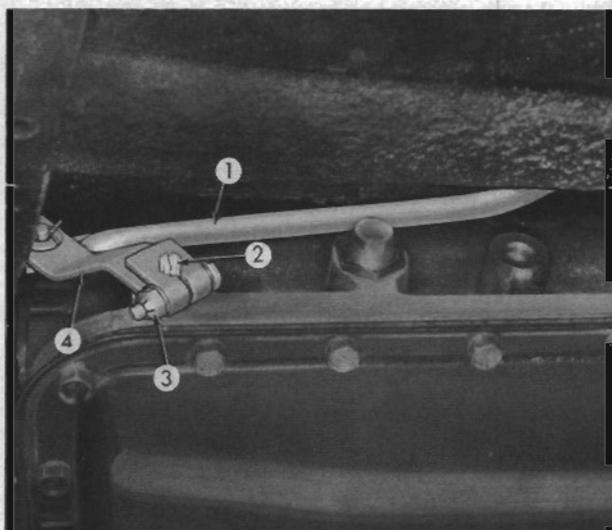
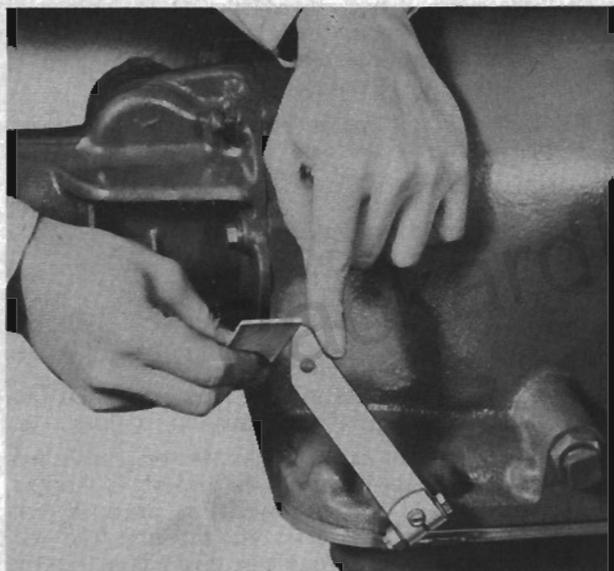

FIG. 266
FIG. 267
Disconnect the rod (1, Fig. 266) at the throttle valve outer lever (4) at the right rear of the transmission. Move the lever rearward to its stop. Hold a straight edge across the milled surface of the transmission case. The taper on the end of the lever should just contact the straight edge (see Fig. 267).